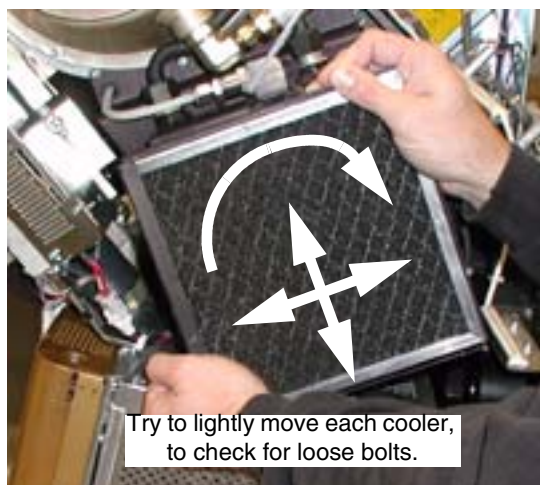

Figure 8 - Example bolt check method
- 4.) Verify that each cooler is secure by attempting to move in three ways: rotation, up/down/left/right, and in/out per Figure 8, below. Do NOT forcefully attempt to move the cooler.